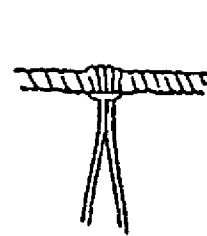

Fig. 3-31-4
- d. Adjust the knot while tightening. (Fig. 3-31-4)